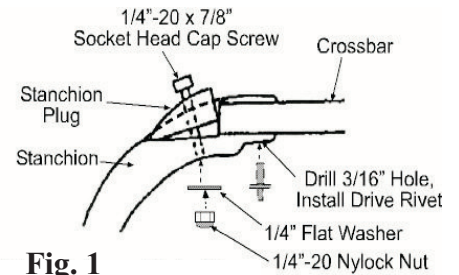

Fig. 1
1. Install stanchion plugs into two stanchions using 1/4"-20 x 7/8" cap screws, 1/4" flat washers and nylock nuts as shown in Fig. 1.
2. Slide one "plugged" stanchion on to end of each crossbar, butting end of bar firmly against stanchion plug. While insuring bar remains butted against plug, drill 3/16" hole in bottom of crossbar thru remaining hole on underside of stanchion neck. Install Drive Rivet in drilled hole as shown in Fig. 1, tapping rivet mandrel pin firmly with hammer until flush with rivet head.